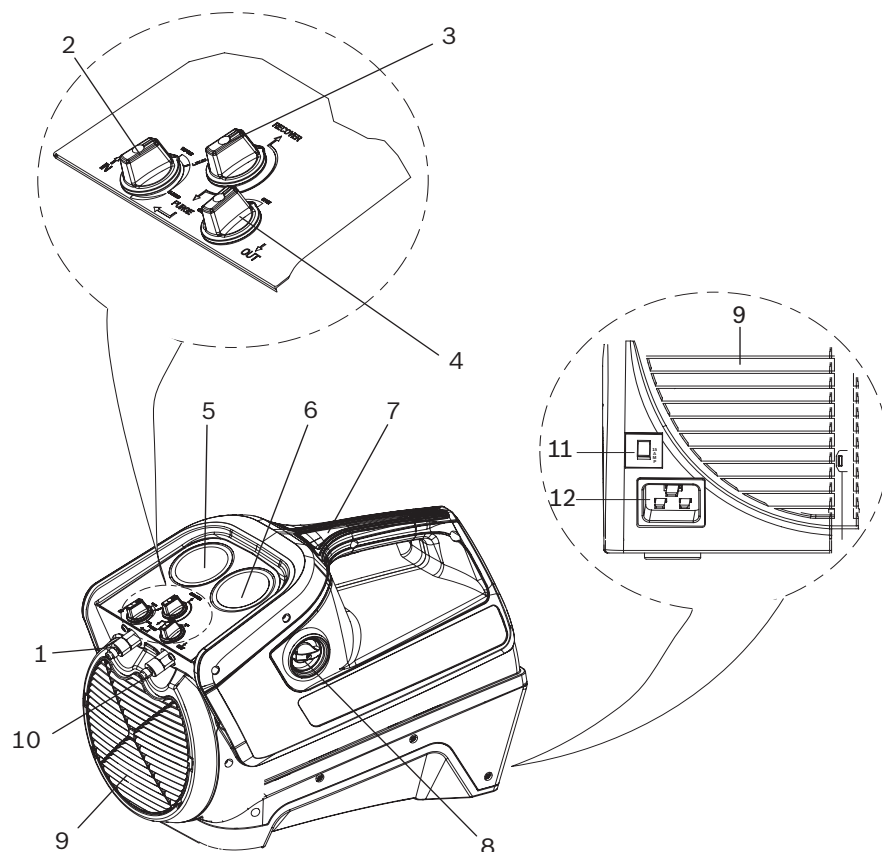

Fig. 1: Overview of RG8.0 / RG4.0
- Inlet port (Fig. 1, Pos. 1)- Used to connect the RG8.0 / RG4.0 to an A/C or refrigeration system via a filter.
- Outlet port (Fig. 1, Pos. 10)- Used to connect the RG8.0 / RG4.0 to the refrigerant tank.
- Inlet control valve (Fig. 1, Pos. 2) - Used to:
- Outlet control valve (Fig. 1, Pos. 4) - Used to control the outflow of the refrigerant from the RG8.0 / RG4.0 to the refrigerant tank
- Recovery / purge valve (Fig. 1, Pos. 3) - Used to:
- Inlet pressure gauge (Fig. 1, Pos. 5) - Measures the pressure at the inlet of the RG8.0 / RG4.0.
- Outlet pressure gauge (Fig. 1, Pos. 6) - Measures the pressure at the outlet of the RG8.0 / RG4.0
The main switch (Fig. 1, Pos. 8) allows you to power on / off the RG8.0 / RG4.0.